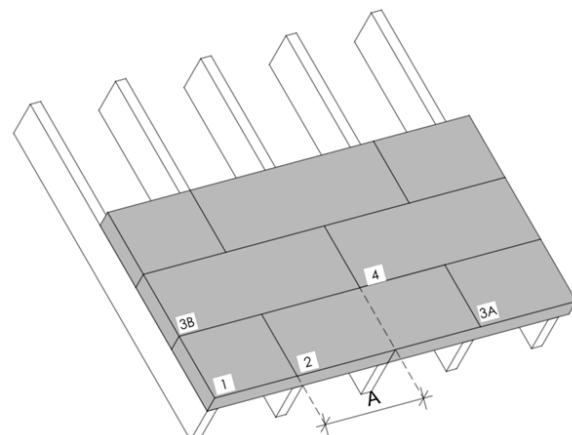

Figure 2. Offset between the rows of STEICO installed on the roof
- Lay in an offset for the second row. For STEICO Universal 22mm thick, an offset ('A' in fig. 2 below) of 600mm is recommended, for all other thicknesses, an offset of at least 250mm is recommended. Ensure boards are well fitted together.